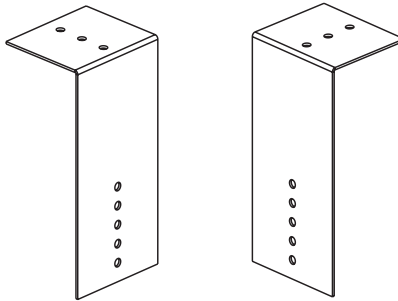

Figure 9. Concentric Adapter Box Brackets
4. Secure longer angles on concentric adapter box brackets (see Figure 9) to concentric adapter box.
- b. Position concentric adapter box to match pipe runs and secure short angles of concentric adapter brackets (see Figure 9) to underside of roof using field-supplied hardware.
4. Secure longer angles on concentric adapter box brackets (see **Figure 9**) to concentric adapter box.